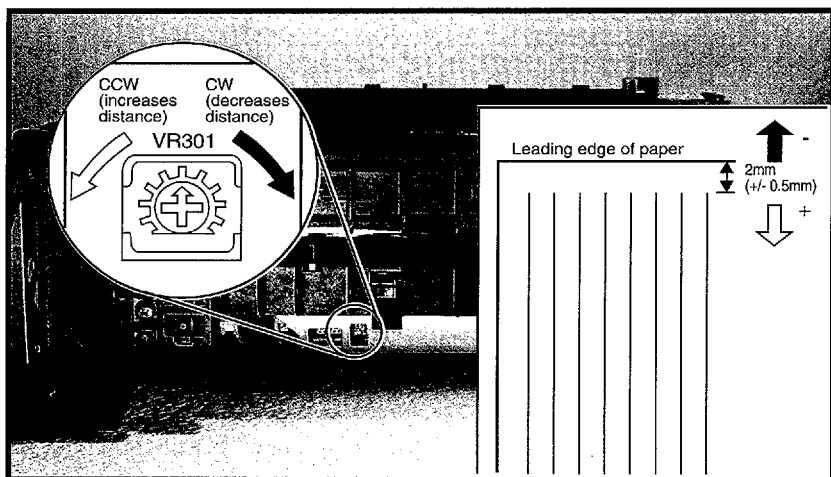

Figure 7-7 Leading Edge Adjustment
1. Run a printer engine test (see “Engine Test” earlier in this chapter). Measure the leading edge distance (see Figure 7-7). If the distance is 1.5 to 2.5 mm, no adjustment is necessary.
3. Locate the access hole for VR301 (see Figure 7-7).
4. Turn VR301 clockwise to decrease the leading edge distance, or counter-clockwise to increase (see Figure 7-7).
2. Use a pencil or pen to draw a horizontal line across the top of each vertical line on the test print image (see Figure 7-7).